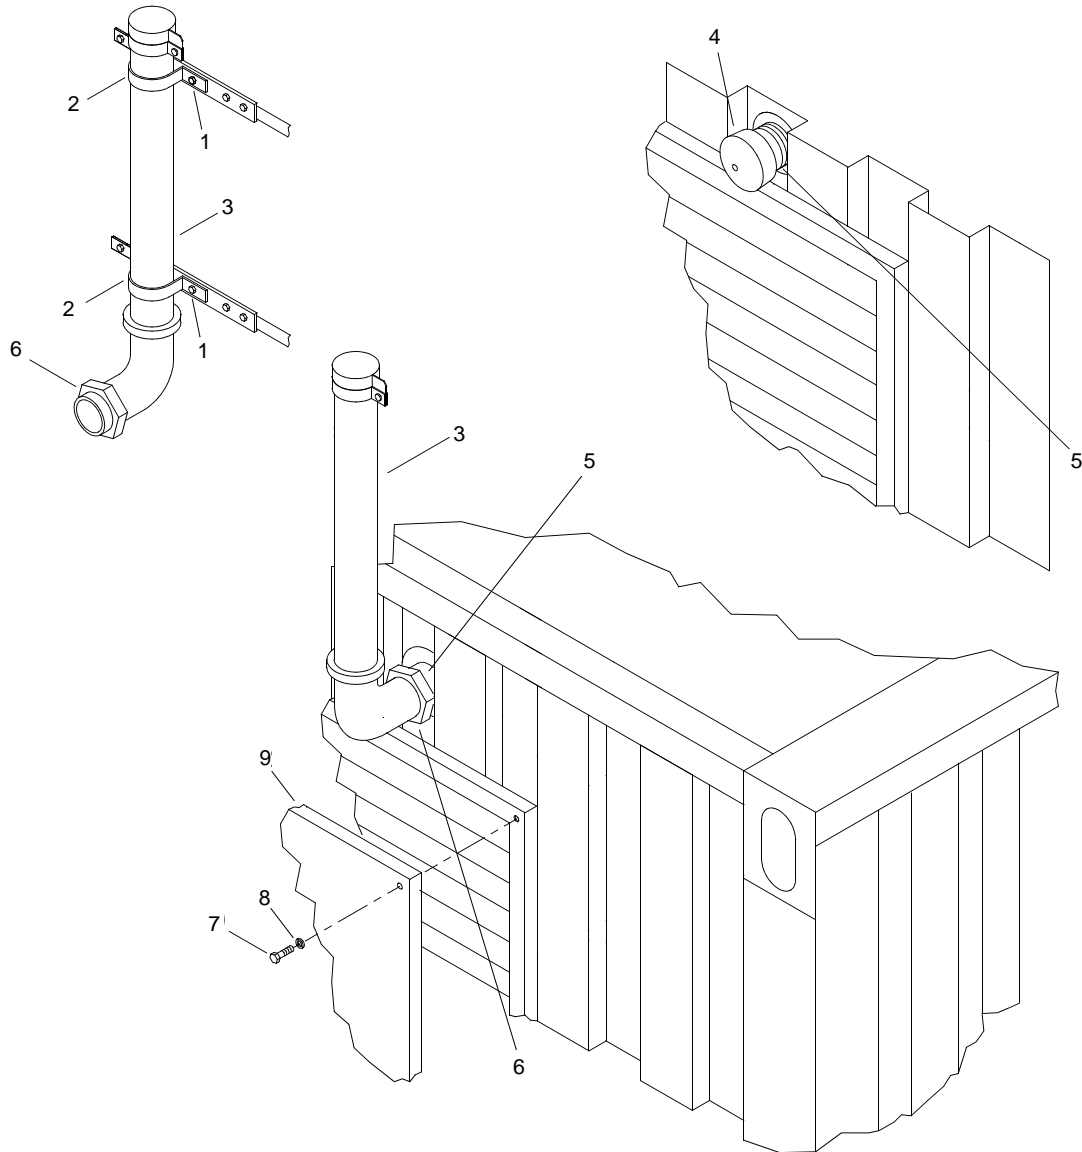

Figure 26. Exhaust Pipe Installation and Louver Covers Removal
4. Remove bolts (figure 26, item 1) from stowage brackets (figure 26, item 2) from interior of container.
5. Remove exhaust pipe (figure 26, item 3) from stowage brackets (figure 26, item 2) from interior of container.
6. Remove protective cover (figure 26, item 4) from exhaust outlet (figure 26, item 5). Stow protective cover (figure 26, item 4) in container.
7. Position exhaust pipe (figure 26, item 3) on exhaust outlet (figure 26, item 5) and tighten flange nut (figure 26, item 6).
8. Remove six hex bolts (figure 26, item 7) with lockwashers (figure 26, item 8) and remove louver covers (figure 26, item 9) from exhaust and intake dampers. Stow louver covers (figure 26, item 9) in container.